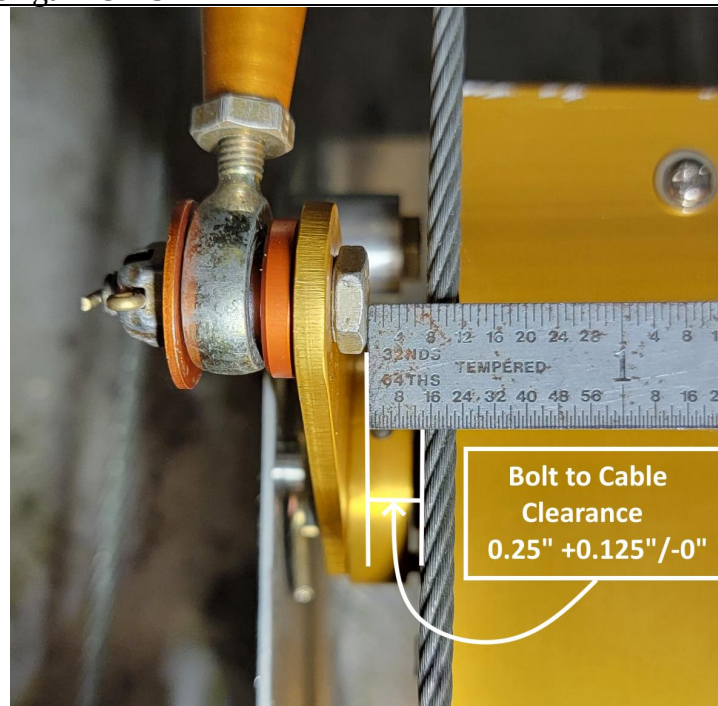

FIGURE 4-10 BOLT TO CABLE CLEARANCE
- 4.2.4 With just the bolt in the servo arm and the servo arm facing up 90 degrees from the baseplate, use a scale to measure the distance between the edge of the elevator cable and inboard surface of the servo arm bolt. Slide the bracket left or right to achieve the 0.25" +0.125"/-0" tolerance as shown in Figure 4-10.
- 4.2.18 Temporarily attach the pitch servo push/pull tube to the servo and upper elevator cable. Refer to Figure 4-10 and Illustrated Parts Catalog Document # 1006907.